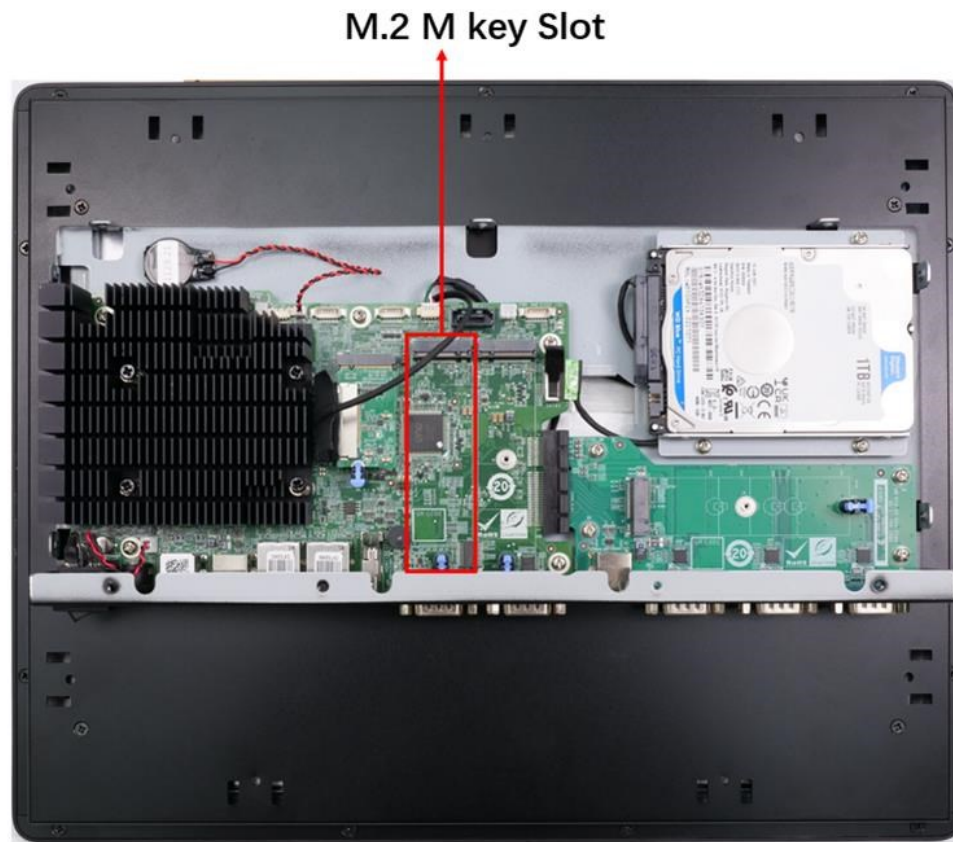

Figure 3-5: M.2 Slot Location
Step 2: Locate the M.2 slot as shown in **Figure 3-5**.